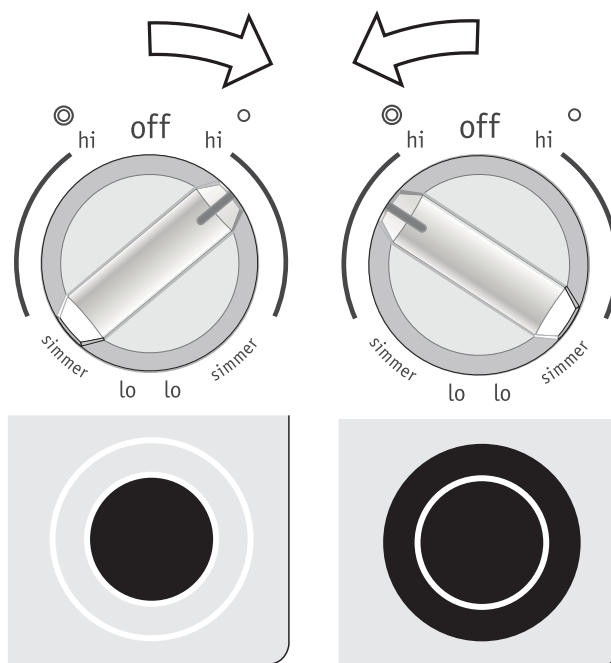

Figure 9: Inner coil operation (L) and inner/outer coil operation (R)
The cooktop is equipped with 1 or 2 dual radiant surface elements located at the left front and the right front or the right rear position. Symbols around the knob are used to indicate which coil of the dual radiant element will heat. The symbol with the center circle blackened indicates that only the inner coil will heat (See Figure 9). The symbol with both coils blackened indicates that both inner and outer coils will heat (See Figure 9). You may switch from either coil setting at any time during cooking.
2. Push in and turn the control knob to the inner coil symbol for smaller cookware or to inner and outer coil symbol for larger cookware (See Figure 9). Turn the knob to adjust the setting if needed. Start most cooking operations on a higher setting and then turn to a lower setting to finish cooking. Each surface element provides a constant amount of heat at each setting. A glowing red surface heating area extending beyond the bottom edge of the cookware indicates the cookware is too small for the surface heating area.